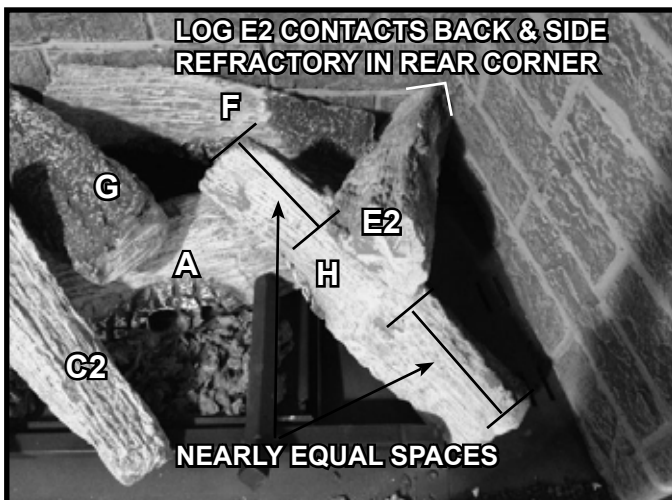

Figure 14. Log E2 Installed
10. **(LOG E2):** Place Log E2 into the appliance as shown in Figure 14 with the burned out portion toward the center of the appliance. The base of the log will be in the right rear corner, contacting both the rear and right side refractory. The flat (bottom) side of the log will rest on Log H, approximately equally spaced between the top and bottom. See Figure 3 for completed log set installation.